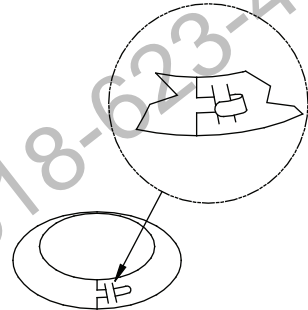

Figure 13
e. Wrap the Collar around the chimney and fasten it loosely. Slide the Collar down to meet the Insulation Shield. Slip the tab through the adjacent slot and fold it back to tighten the Collar. (**Figure 13**).